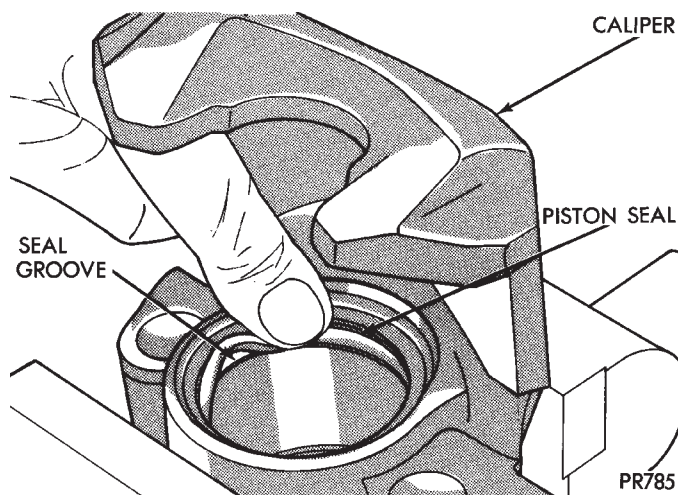

Fig. 1 Installing New Piston Seal
(2) Dip new piston seal in clean brake fluid and install in the groove of the caliper bore. Seal should be positioned at one area in groove and gently worked around the groove (Fig. 1), using only your fingers until properly seated.
NEVER USE AN OLD PISTON SEAL. (Be sure that fingers are clean and seal is not twisted or rolled) (Fig. 1).